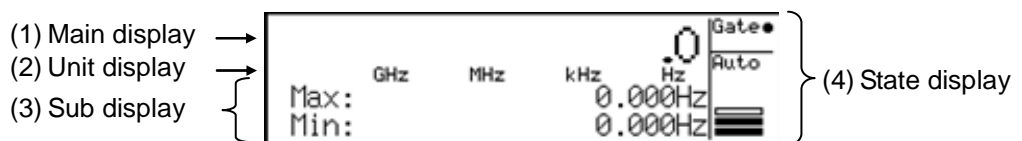

Figure 4.2.1-1 Normal measurement screen
Figure 4.2.1-1 shows a normal measurement screen example, where frequency measurement results are indicated by nominal values. This screen is displayed after the initial setup is performed.
The following describes the items (1) through (4) in Figure 4.2.1-1.
- (1) Main display